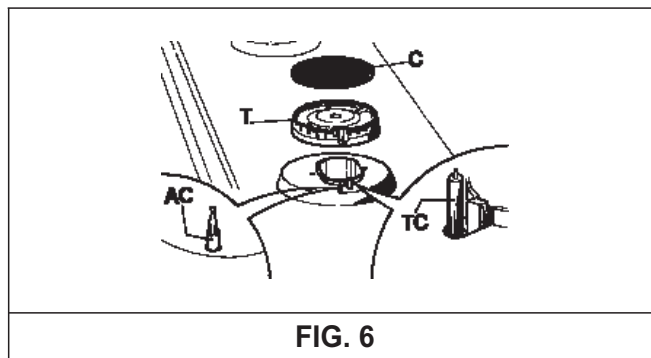

FIG. 6
Periodically wash the hot plate, the enamelled steel pan support, the enamelled burner caps "C" and the burner heads "T" (see fig. 6) with lukewarm soapy water. Following this, all parts should be thoroughly rinsed and dried. Never wash them while they are still warm and never use abrasive powders. Do not allow vinegar, coffee, milk, salted water, lemon or tomato juice from remaining in contact with the enamelled surfaces for long periods of time.
- **Check that burner head slots "T" (fig. 6) have not become clogged by foreign bodies.**
- **Check that enamelled burner cap "C" (fig. 6) have correctly positioned on the burner head. It must be steady.**